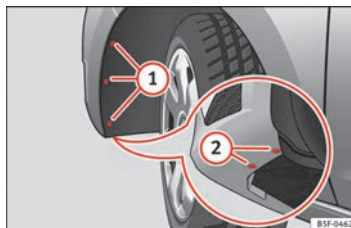

Fig. 193 Fog light: access to the connector and to the light bulb holder.
- Remove the 3 bolts ① ⇒ Fig. 193 from the inside of the wheel housing and the 2 bottom bolts ② ⇒ Fig. 193 from the bumper with the help of a screwdriver.